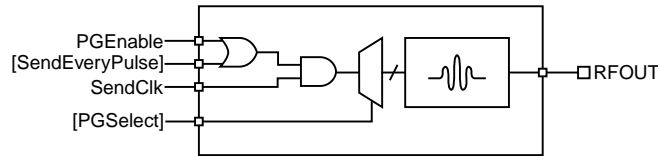

Figure 8.1. Transmitter block diagram.
The X2 transmit path (TX) employs a high-order Gaussian approximation impulse generator, capable of transmitting high bandwidth impulses over a large range of frequencies. Figure 8.1 shows the basic block diagram of the transmitter. PGSelect and SendEveryPulse are user configurable functions, while PGENable and SendClk are signals originating from the Sweep Controller and Timing Controller, respectively.